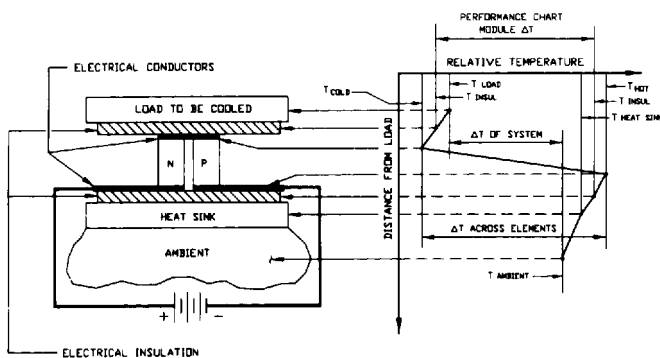

Figure 3: Typical Temperature Relationship in a TEC
- 2) The efficiency of the heat exchanger that is between the hot surface of the T.E. and the ambient. These two temperatures (T_C & T_h) and the difference between them (ΔT) are very important parameters and must be accurately determined if the design is to operate as desired. Figure 3 represents a typical temperature profile across a thermoelectric system.